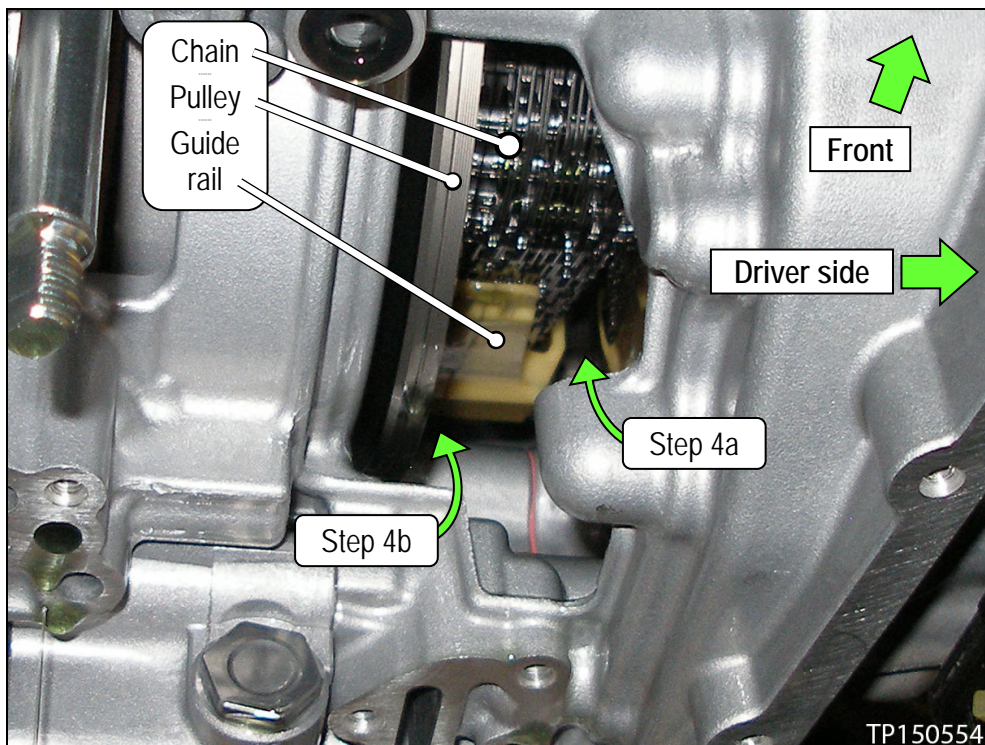

Figure 6
- Insert the camera lens behind the pulley between the guide rail and pulley where shown in Figure 6 (also see page 9-10, Figure 7-10).